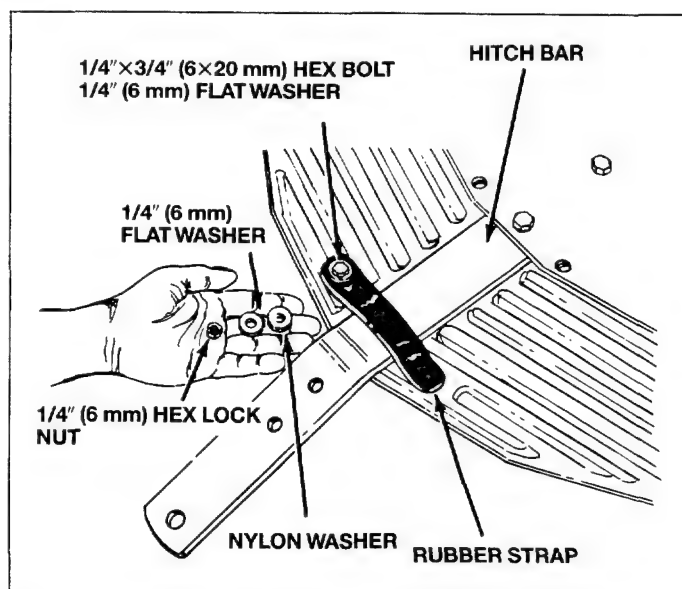

Fig. 5
4. Assemble the rubber strap to the two shields and over the hitch bar. See figure 5. Secure with two 1/4"×3/4" (6×20 mm) hex bolts, four 1/4" (6 mm) flat washers, two nylon washers and two 1/4" (6 mm) hex lock nuts. Place the bolts and one flat washer down through the rubber strap and shields. Next place nylon washer and flat washer on bolt and tighten hex nut. See figure 5.